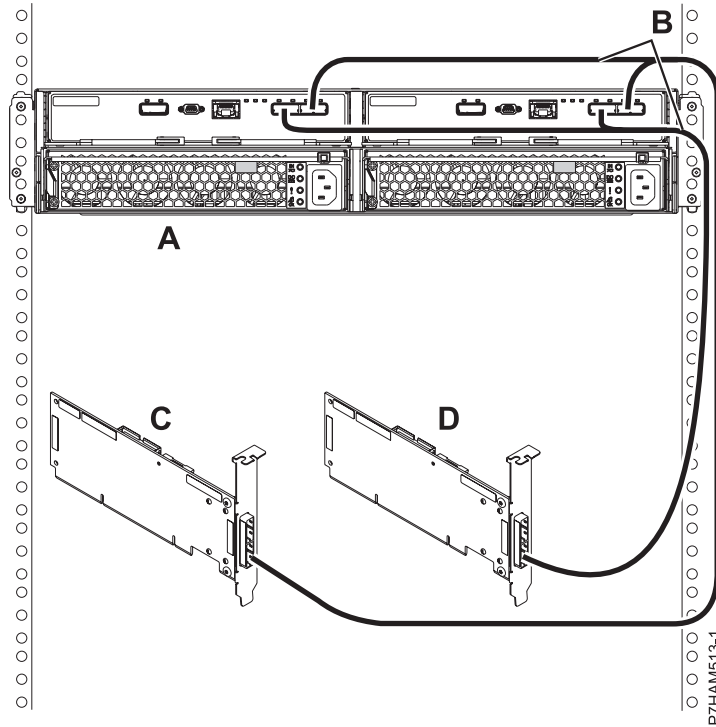

Figure 39. Mode 2 connection of one 58/87 disk drive enclosure by using YO cables to two independent SAS adapters
12. Perform the mode 2 connection of one 58/87 disk drive enclosure (A) by using YO cables (B) to two independent SAS adapters as shown in Figure 39 on page 70.